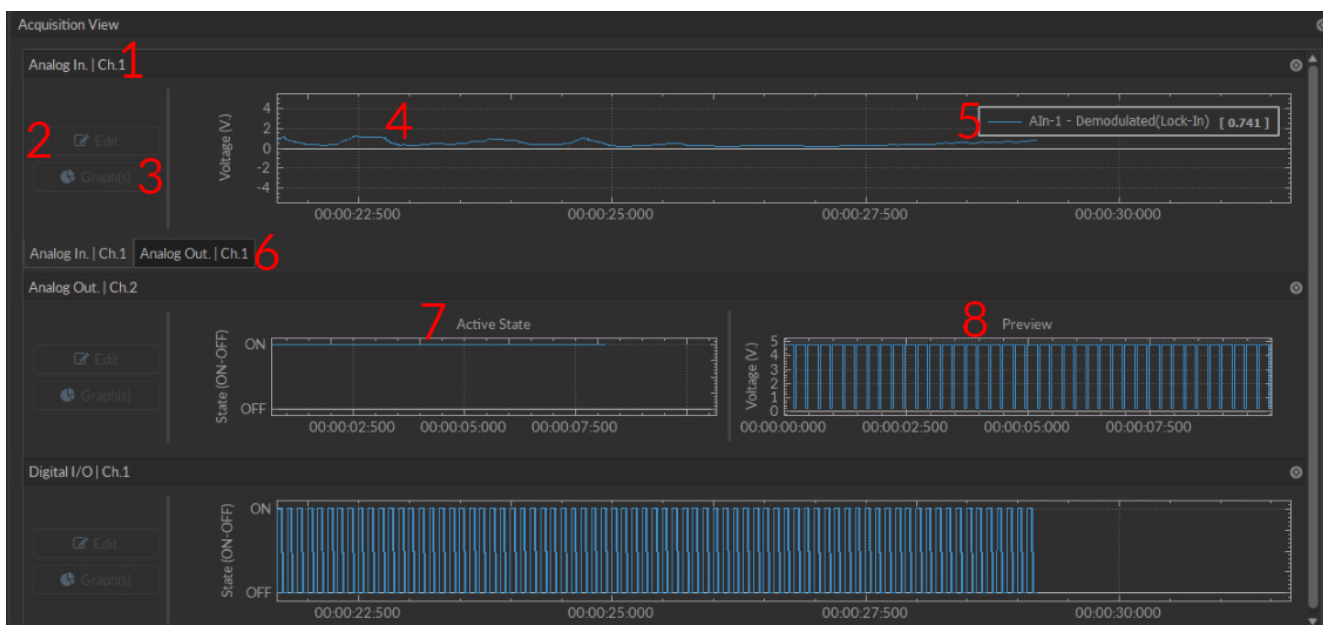

Figure 3.35: Acquisition View Box
1. The **Channel name** is located on the upper left of the **Channel box** (Fig. 3.35), identifying the type of channel and it's number, corresponding to that on the console. This name can be modified in the **Graph options** window.
2. The **Edit** button (Fig. 3.35) allows the editing of channel parameters, opening the channel configuration windows. For further information, see section 3.2.1.
3. The **Graph(s)** (Fig. 3.35) button opens the **Graph Options** window.
4. The **Graph** (Fig. 3.35) box displays the graph of a channel, with **Voltage** or **State** as the vertical axis and **Time** as the horizontal axis. Double-clicking either axis will open a **Change Axis Range** window that allows the axis limits to be changed, as in the **Zooming Menu**. Any changes done on a horizontal axis will change the axis limits for each channel.
5. The **Instant values** box (Fig. 3.35) can be activated by right-clicking the **Input graph** box and selecting **Show instant values**. This box shows the current value detected by the console for each trace on the selected channel. This box cannot be activated on **Preview graphs**.
6. The **Channel tabs** (Fig. 3.35) appear in certain input modes (such as **Interleaved** and **Lock-in**) where the input automatically sets the output values on separate channels. It is possible to create a **Channel tab** by undocking one channel and moving it above another until it turns blue, then releasing it.
7. Analog output channels display an **Active state** graph (Fig. 3.35). This graph displays whether the channel is outputting a signal (On, $V \neq 0$) or not (Off, $V = 0$).
8. Output channels display a **Preview** graph (Fig. 3.35), showing a preview of the pulse sequence.